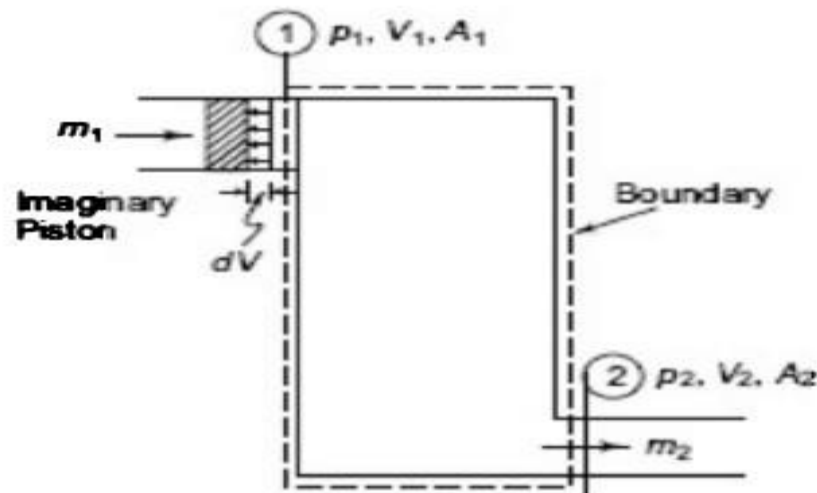

Fig. 3.16 Flow work
**Flow work** The flow work, significant only in a flow process or an open system, represents the energy transferred across the system boundary as a result of the energy imparted to the fluid by a pump, blower or compressor to make the fluid flow across the control volume. Flow work is analogous to displacement work. Let  $p$  be the fluid pressure in the plane of the imaginary piston, which acts in a direction normal to it (Fig. 3.16). The work done on this imaginary piston by the external pressure as the piston moves forward is given by